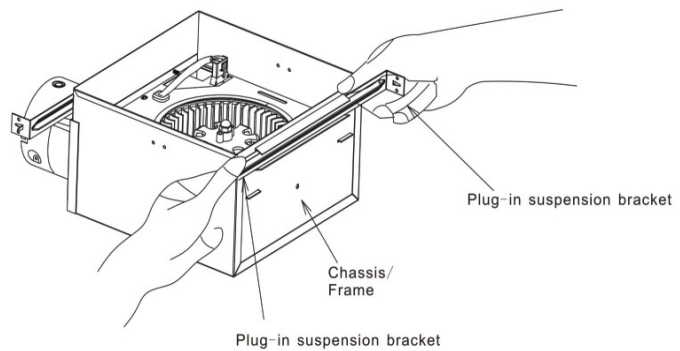

Fig.1
1. Insert the suspension bracket into the fan body and adaptor.(select the suspension bracket as shown below) (Fig. 1)